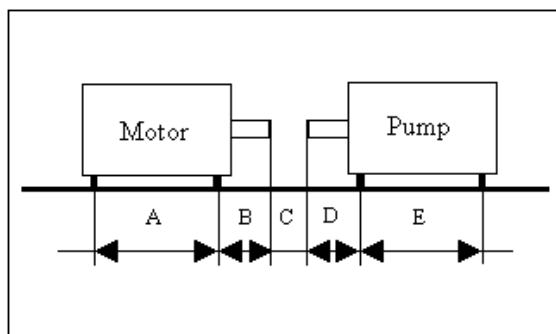

Figure 1 Schematic view of the pump-motor assembly with marked measurements for mathematical solution.
- Make a sketch of the machinery (Figure 1).